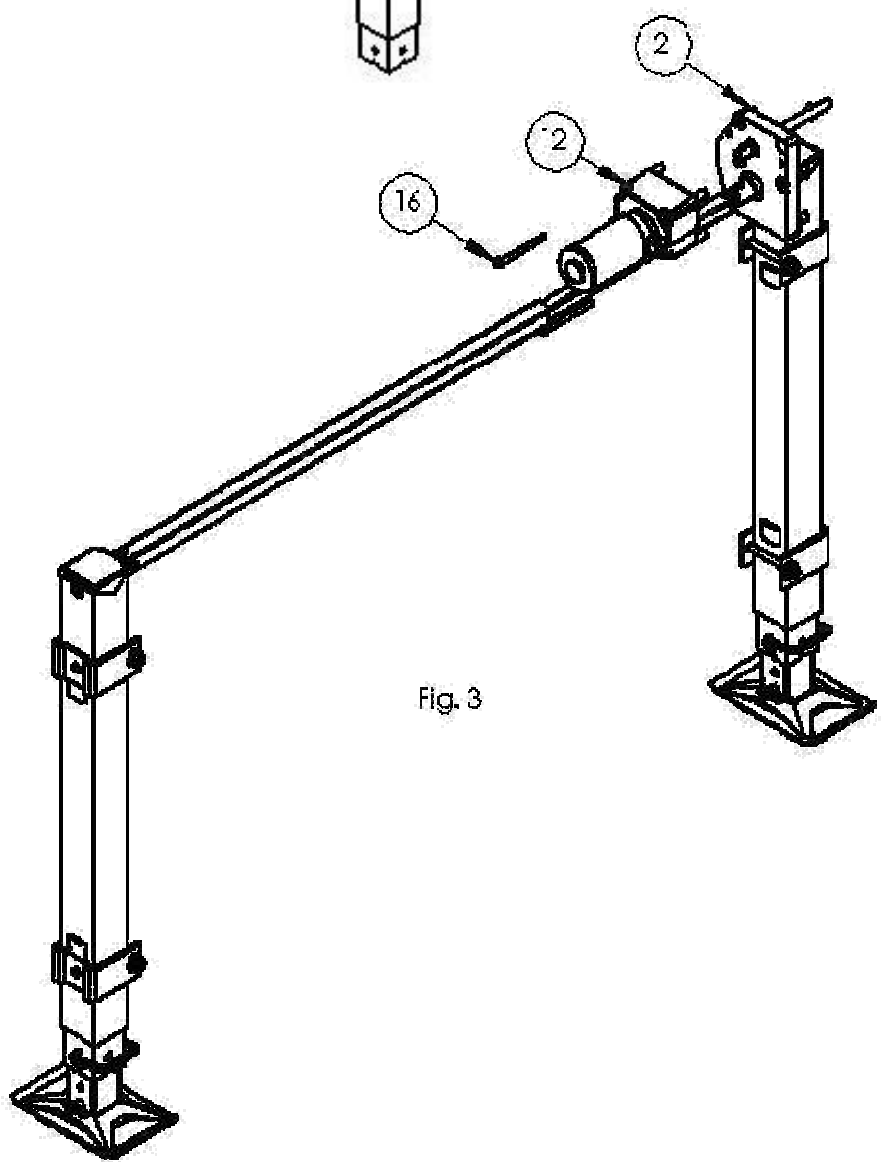

Fig. 3
1. The 12VDC electric drive motor must be installed on the inside of the gear box located on the same side of the trailer from which the landing legs are now hand cranked (FIG 3 #12).
2. Put slotted coupling of motor over end of shaft on gear box (FIG 3 #12).
3. Secure motor to gear box with two ¼" dia. X 3½" long rounded (FIG 3 #16) slotted head machine screws. Thread screws into the two tapped holes in gear box.